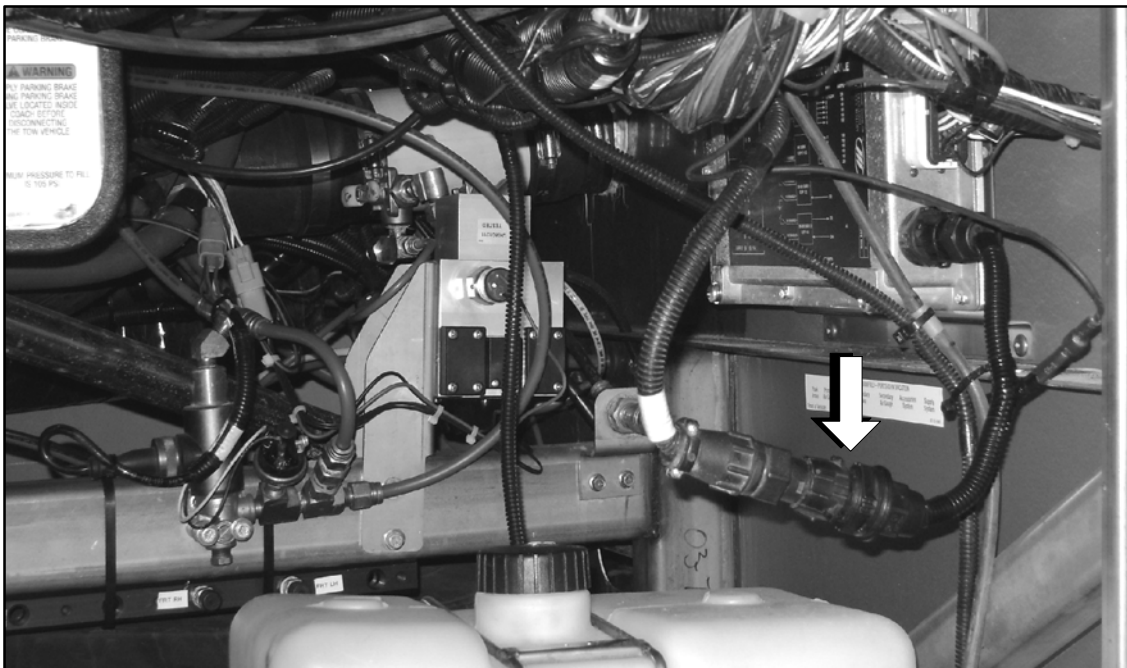

Figure 15. Drag link compartment.
45. Locate PDM1 on the drag link compartment wall (refer to Figure 15). Carefully unplug the connector and plug it into connector PDM1A of the PDM1 Adapter Harness, p/n 07-12-3668. Connect Plug PDM1B of the adapter harness into the power plug of the PDM1.